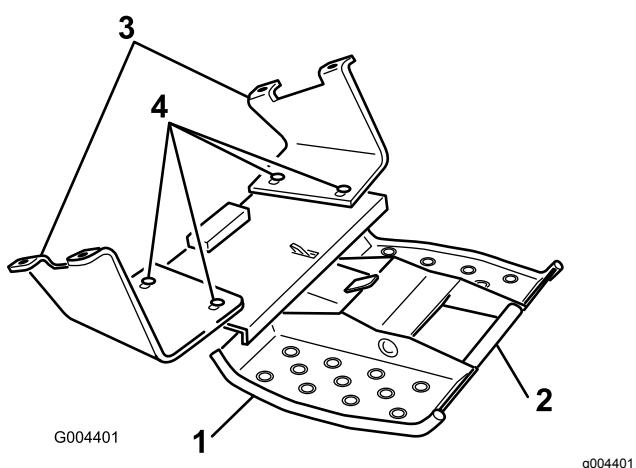

Figure 4
3. Pull up on the platform handle to extend the platform (Figure 4).
4. By hand, loosen, but do not remove, the 4 bolts and nuts securing the platform assembly to the mounting brackets (Figure 4).